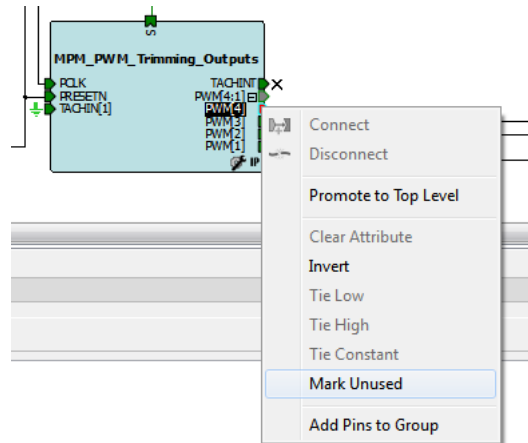

Figure 43 • PWM[4] Mark Unused
7. Select Mark Unused for PWM[4] as shown in Figure 43.